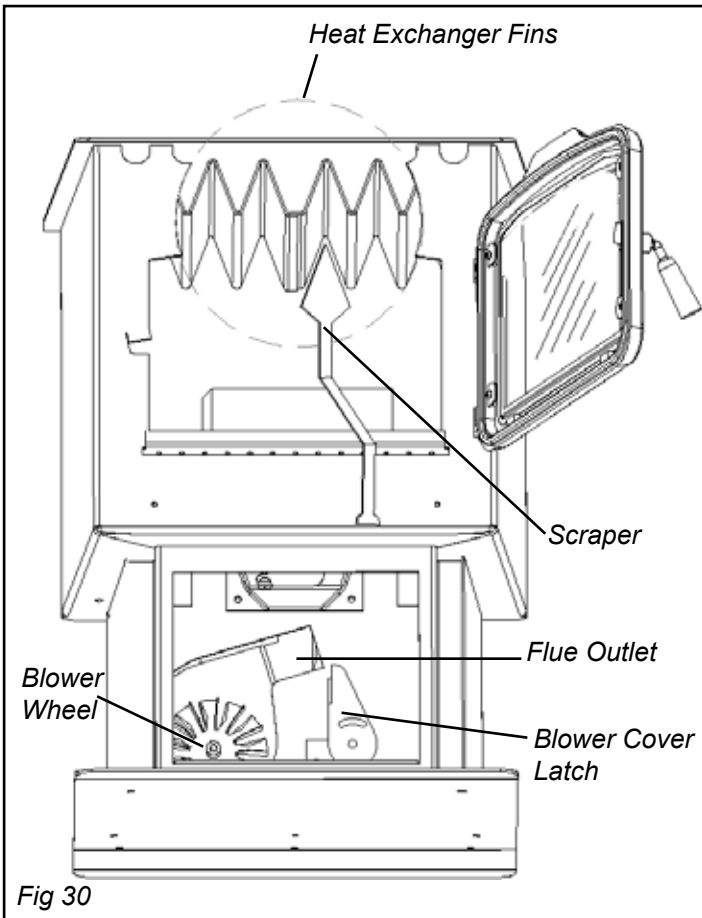

Fig 30
2. Clean the heat exchanger with the scraper as shown in Fig. 30.